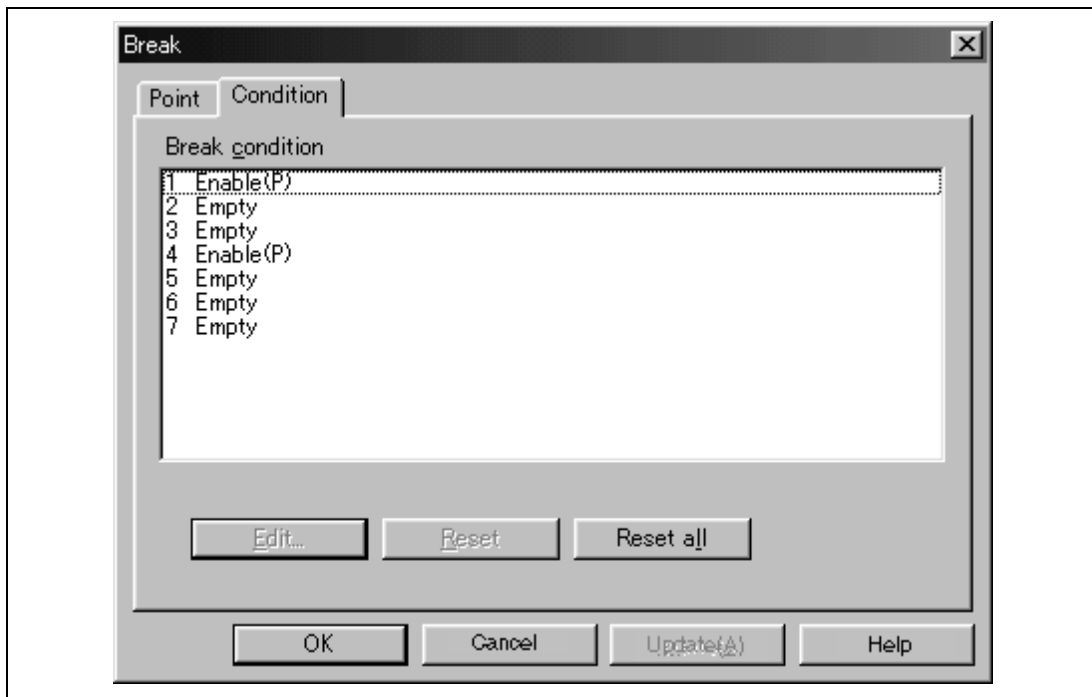

Figure 6.10 [Condition] Page
6. Break Condition 1,4 is used as the measurement range in the performance measurement function when (P) is added as shown in figure 6.10. For setting the performance measurement function, refer to section 6.5.7, SH7751 E10A Emulator Useful Functions. This applies when the Break Condition is displayed with the BREAKCONDITION_DISPLAY command in the command-line function. In this case, a break does not occur when Break Condition 1,4 is satisfied.